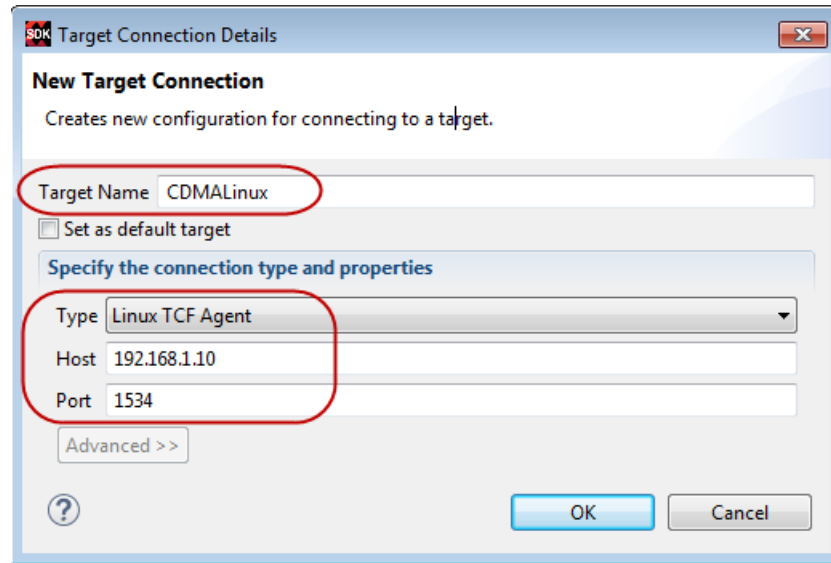

Figure 5-11: Target Connection Details Dialog Box Settings
11. In the **New Target Connection** screen, apply the settings below (also shown in Figure 5-11):